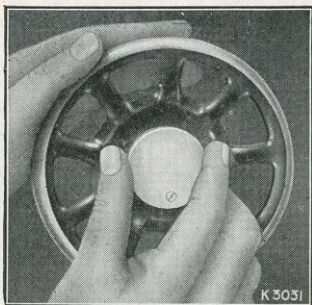
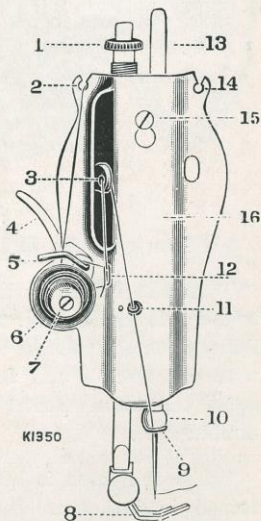
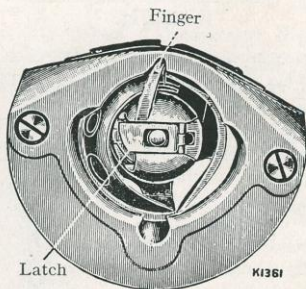

Fig. 1.
Fig. 3.
Fig. 4.
This device allows the balance wheel to run free, so that bobbins may be wound and the correct method of treadling acquired without operating the stitching mechanism. To loosen the wheel, hold it with the left hand, and with the right hand turn the stop motion screw over towards you, as shown in Fig. 1.
When familiar with the working movement, tighten the balance wheel by turning the stop motion screw from you, and place a piece of material under the presser foot (8, Fig. 3). Lower the latter by means of the lifter (4, Fig. 3) and again work the machine, without its being threaded, until you are accustomed to guiding the material.
Tighten the balance wheel (see Fig. 1) and place a piece of material under the presser foot (8, Fig. 3). Then lower the latter by means of the lifter (4, Fig. 3). Now **turn the handle over from you** to work the machine, without its being threaded, until you are accustomed to guiding the material with the left hand.
(See Fig. 3)
Turn the balance wheel towards you until the take-up lever (3, Fig. 3) is at its highest point. Draw open the slide in the bed of the machine and, with the thumb and forefinger of the left hand, open the latch (see Fig. 4) and withdraw the bobbin case.
Loosen the balance wheel (see Fig. 1) and place a reel of thread on the spool pin. Pass the end of thread through the notch at top of face plate (14,
Fig. 3), then thread the bobbin winder by passing the thread first through the lower eyelet (5) of the thread guide from below and into the notch (2) at its top. Now pass the thread through a hole in the left disc of the bobbin from the inside, and with the left hand press the bobbin on to the spindle (1) and hold. Then with
After threading the bobbin case hold its latch between the thumb and forefinger of the left hand and, with its position finger opposite the notch at the top of the shuttle race (see Fig. 4), replace it on the centre stud of the shuttle. Then release the latch and press the bobbin case back until the latch catches the groove near the end of the stud. Allow the end of thread to hang free, and close the slide in the machine bed.
Raise the take-up lever (3, Fig. 3) to its highest and lift the presser foot (8, Fig. 3). Move the material back and to the left and sever the threads by passing them over the thread cutter above the presser foot. Leave a few inches of thread under and at the back of the presser foot.
For ordinary family sewing it is seldom necessary to change the pressure on the material. If sewing fine silk or flimsy material, lighten the pressure by giving the thumb screw (1, Fig. 3) two or three turns upwards. To increase the pressure, give the thumb screw a few turns downwards.
If used constantly, the machine should be oiled daily, while with moderate use, an occasional oiling is sufficient. A drop of oil applied at the points indicated by arrows in Figs. 12 and 13, is sufficient. To oil the needle bar mechanism, remove the face plate (16, Fig. 3) by loosening the screw (15, Fig. 3) and slipping the plate up over it. **It is most important that oil be applied to point "A" Fig. 12 and to point "B" Fig. 13 when the needle bar is at its lowest.** When oiling, insert the oil can spout well into the oil holes. A drop of oil should also be applied to the shuttle race.
The thread take-up spring (12, Fig. 3) is not broken.
**Stitches Looping.** See that the spring (12, Fig. 3) is not broken, that the upper and under tensions are equal (see page 11), that both bobbin case and needle are properly threaded, that the thread is of good quality and of correct size for the needle (see table on inside of back cover).